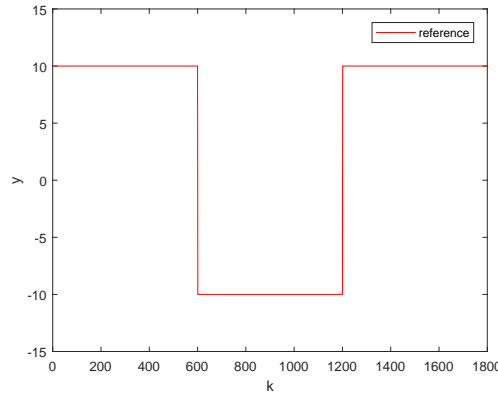

Figure 3: Output reference to be tracked.
1. Design an MPC controller which is able to track the reference given in Figure 3.
- Consider the following realization of the disturbance: $d(k) = 0.1$ for $k \in [0, 600]$, $d(k) = 0.5$ for $k \in [601, 1200]$, and $d(k) = -0.5$ for $k \in [1201, 1800]$. Design a linear MPC controller with disturbance model to track the reference in Figure 3 with zero offset.